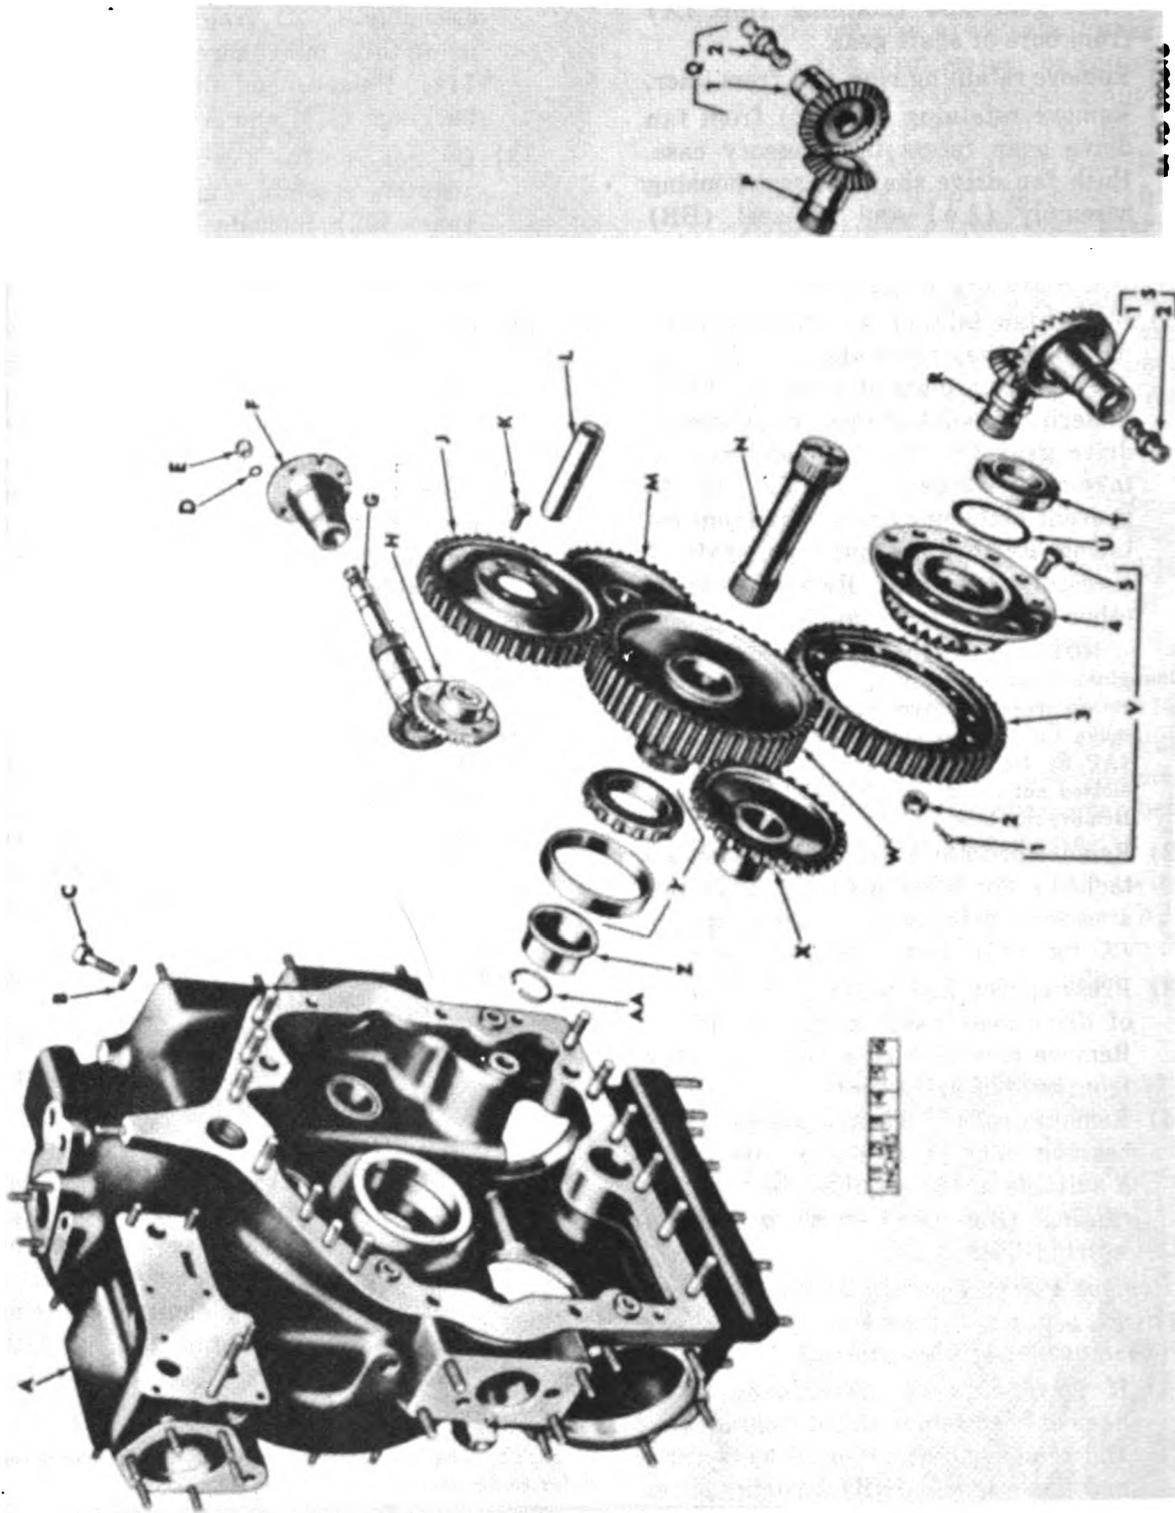
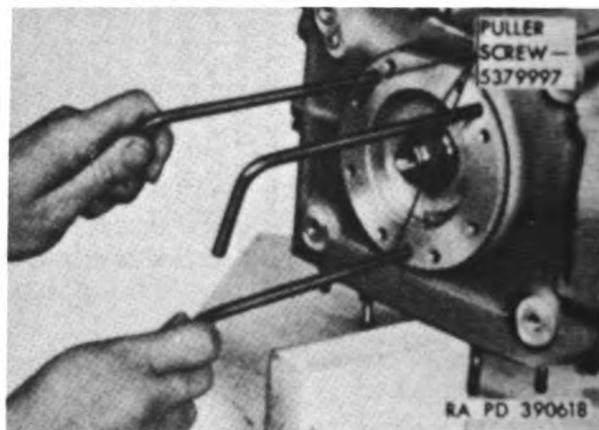

Figure 112. Accessory case (rear)—partially exploded view.
Figure 114. Removing power-take-off drive adapter assembly.
- (1) Straighten tabs of key washer (AG, fig. 109) away from hex nut (AF, fig. 109). Place a piece of wood or similar material at point of mesh of accessory drive gear (W, fig. 112) and power-take-off drive gear (V-3, fig. 112) to prevent accessory drive gear from rotating. Remove hex nut from shaft of accessory drive gear. Remove wood or other material from gears.
- (2) Remove accessory drive gear, with attached roller bearing (Y, fig. 112) and accessory drive gear housing spacer (Z, fig. 112), from accessory case.
- (3) Press spacer and bearing from shaft of drive gear using a suitable press. Remove retaining ring (AA, fig. 112) from bore of drive gear.
- (4) Remove roller bearing (AH) from bearing liner in accessory case using a suitable bearing puller. Remove retaining ring (AJ) from groove in bearing liner.
- (2) Remove power-take-off drive adapter assembly (NN) from accessory case using three puller screws 5379997 (fig. 114). Remove and discard "O" ring packings (MM and AK).
- (3) Do not remove sleeve bearing from adapter assembly unless inspection (par. 122) indicates replacement is necessary. Refer to paragraph 79g for removal of bearing.
- (4) Reach through starter or generator drive adapter opening and hold power-take-off drive gear assembly (V, fig. 112) in place. Remove power-take-off drive shaft assembly (LL) from drive gear assembly through opening in front of accessory case. Remove retaining ring (KK) from shaft of drive assembly.
- (5) Remove power-take-off drive gear assembly (V, fig. 112) from rear of accessory case.
- (6) Do not remove starter driven gear (V-4, fig. 112) from power-take-off drive gear (V-3, fig. 112) unless inspection (par. 122) indicates replacement of either gear is necessary. Remove starter driven gear as described in (a) and (b) below.
- (a) Remove 12 cotter pins (V-1, fig. 112) from slotted hex nuts (V-2, fig. 112). Remove nuts and 12 hex-head bolts (V-5, fig. 112) securing starter driven gear to power-take-off drive gear.
- (b) Press starter driven gear from power-take-off drive gear using a suitable press. Press ball bearing (T, fig. 112) from bore of starter driven gear using a suitable bearing press. Remove shims (U, fig. 112) from driven gear.
NOTE: The key letters shown below in parentheses refer to figure 112.
NOTE: The key letters shown below in parentheses refer to figure 112 except where otherwise indicated.